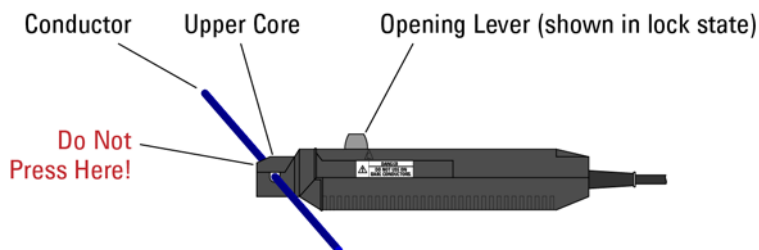

Figure 3 Use the Opening Lever
- 4 With the probe's sensor head around the conductor to be measured, slide the Opening Lever into the **Locked** position as shown in **Figure 3**.